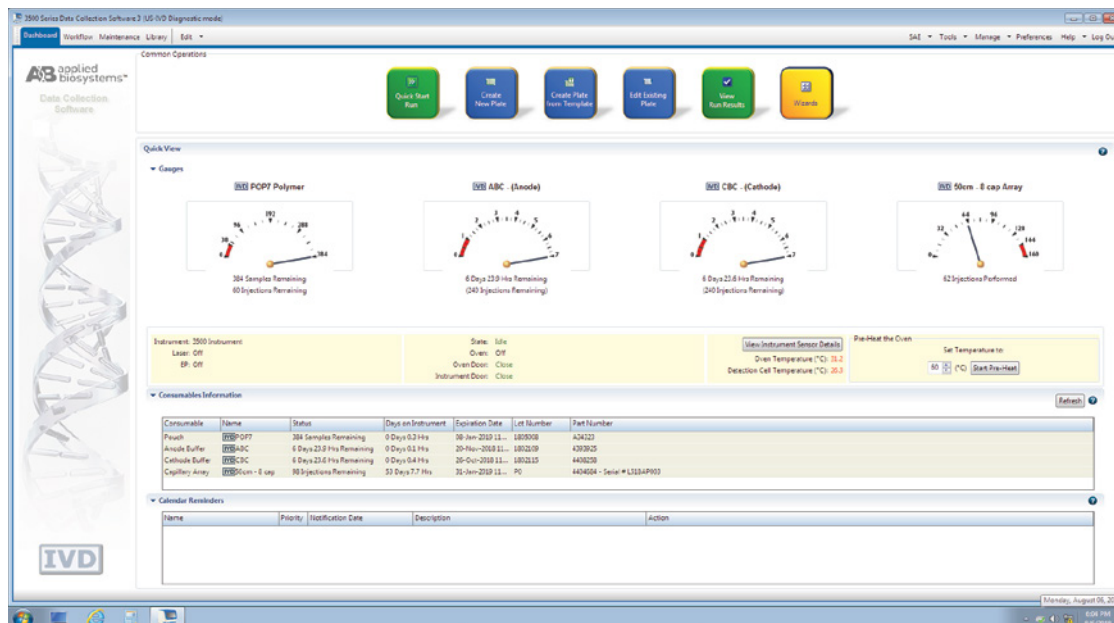

Figure 1. Dashboard on the Applied Biosystems® 3500 Dx Genetic Analyzer installed with POP-7® polymer, a 50cm array and Data Collection Software Version 3.2.
1. Before preparing the Matrix Standard, open the 3500 Series Data Collection Software, and select **Diagnostic Mode** upon login. Navigate to the Dashboard screen (Figure 1). Complete any instrument maintenance requested under Calendar Reminders. Under Consumables Information, ensure that consumables are not expired. Within the instrument, inspect the consumables to ensure that buffer levels are at their fill lines. Check the pump assembly for bubbles, and run the Remove Bubble wizard if needed.